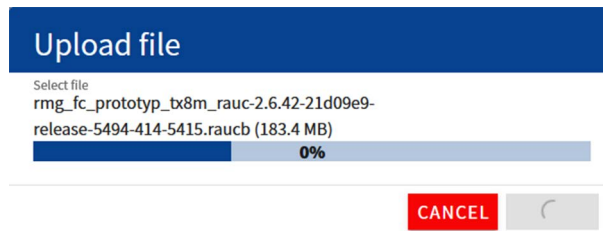

Fig. 107: Upload file window – progress bar
- ➔ The selected file is uploaded. This can take several minutes (see fig. 107).